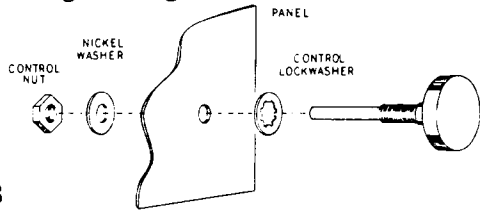
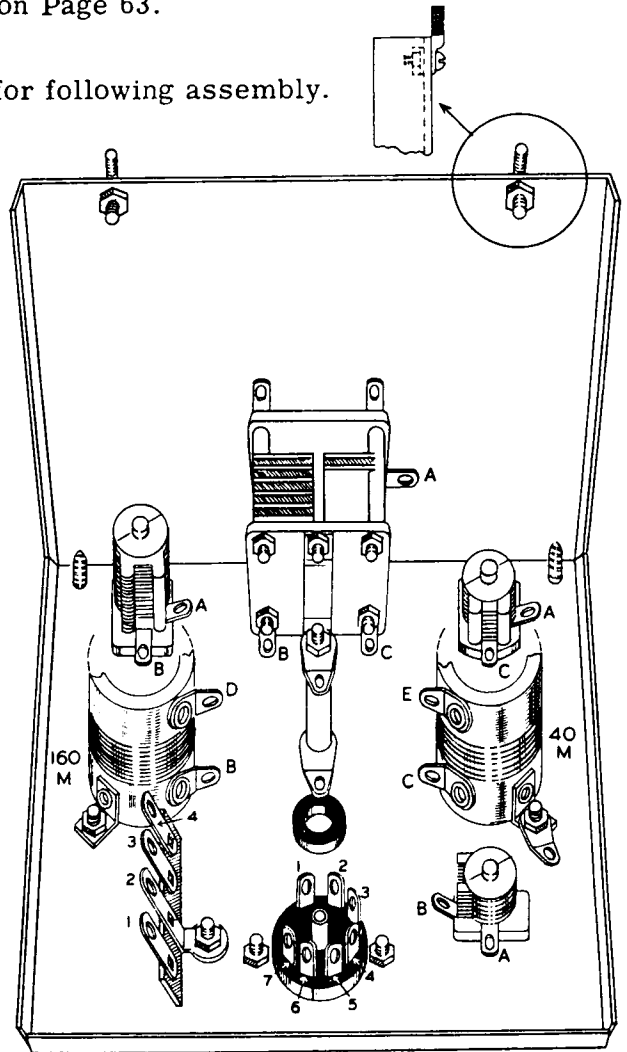
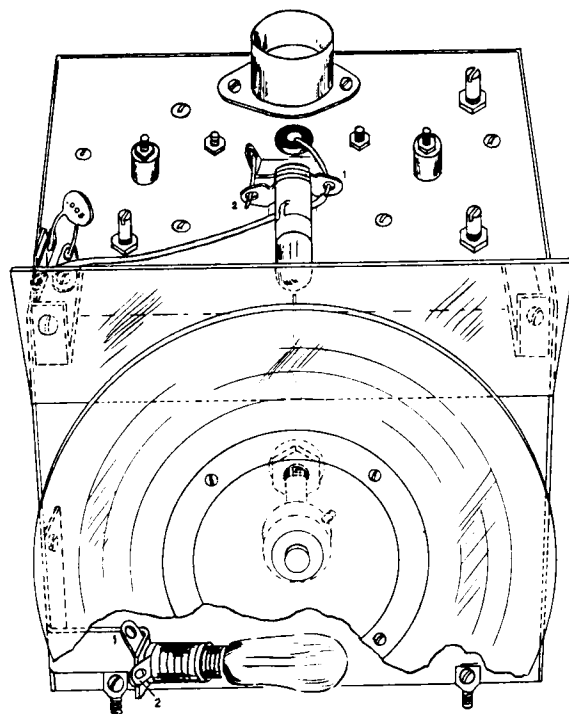

Figure 3
Figure 2
Figure 5
- () Mount the differential tuning capacitor to the VFO sub-chassis as shown in Figure 2. Place a 3/8 lockwasher on the back of the chassis and a 3/8 flat washer and nut on the front. See Figure 3. Align the capacitor so the stator plates appear as shown in Figure 2 before tightening.
- () Mount the 40 M coil 40-55 on the other side of the chassis in the same manner but using a solder lug on the rear bracket in place of the lockwasher. See Figure 2.
- () Mount the 20 $\mu\mu\text{f}$ trimmer capacitor in front of the 160 M coil. Position as shown in Figure 2 and secure using the 1/4" nut on top of the chassis.
- () Mount a 9 $\mu\mu\text{f}$ trimmer capacitor in front of the 40 M coil in the same manner. Position as shown in Figure 2.
- () Mount a 9 $\mu\mu\text{f}$ trimmer capacitor to the rear of the 40 M coil and position as shown in Figure 2.
- () Referring to Figure 5, insert a 1 1/2" 6-32 screw through a solder lug, then through the dial light bracket and chassis top. Position the dial light and solder lug as shown. On the underside of the chassis, slip a solder lug, a 1 1/8" spacer, another solder lug and a 6-32 nut over the protruding screw. Position the solder lugs as shown in Figure 2 and tighten.
- () Mount the 7-pin shielded ceramic tube socket with the pins positioned as shown in Figure 2 using 3-48 screws and nuts.
- () Mount a 4-lug terminal strip as shown in Figure 2 using a lockwasher under the nut.
- () Connect a tinned bare wire from point A on the 20 $\mu\mu\text{f}$ trimmer capacitor (S) to point A on the differential tuning capacitor (NS).
- () Connect a bare wire from point A on the differential tuning capacitor (S) to point A on the front 9 $\mu\mu\text{f}$ trimmer capacitor (NS).
- () Connect a bare wire from this point (S) through the solder lug on 40 M coil bracket (NS) to point A on the rear 9 $\mu\mu\text{f}$ trimmer capacitor (NS).
- () Connect a bare wire from the solder lug on the 40 M coil bracket (S) through the solder lug at the base of the 1 1/8" spacer (NS) to the #2 terminal (see Figure 2) of the 4-lug terminal strip (NS).
- () Connect a bare wire from the top solder lug on the 1 1/8" spacer (NS) through the bottom solder lug (S), over to the tube socket through pin 3 on the tube socket (NS) to the center post of the tube socket (NS).
- () Run a bare wire through terminal B of the 160 M coil (NS) then through terminal B of the differential capacitor to point B of the 20 $\mu\mu\text{f}$ trimmer capacitor. Solder the connections on the two capacitors and make a mechanical connection at the coil terminal (NS).
- () Run a bare wire through terminal C on the 40 M coil (NS) through terminal C on the differential capacitor to point C on the 9 $\mu\mu\text{f}$ trimmer capacitor. Solder the connections on the two capacitors and allow 3" of bare wire to protrude from the rear of the coil terminal for later connection to the switch. See Pictorial 1.
- () Mount the light shield to the top of the VFO chassis, using #6 sheet metal screws as shown in Figure 5. Include a single-lug terminal strip and solder lug on the right side as shown.
- () Connect a black wire from terminal 1 of the pilot lamp socket (S) to the insulated lug of the 1-lug terminal strip (NS).
- () Connect a .005 μ fd disc ceramic capacitor from the same terminal (NS) to the adjacent solder lug (S).
- () Mount two 6-32 spade screws to the bottom flange of the chassis as shown in Figure 2, using lockwashers under the nuts.